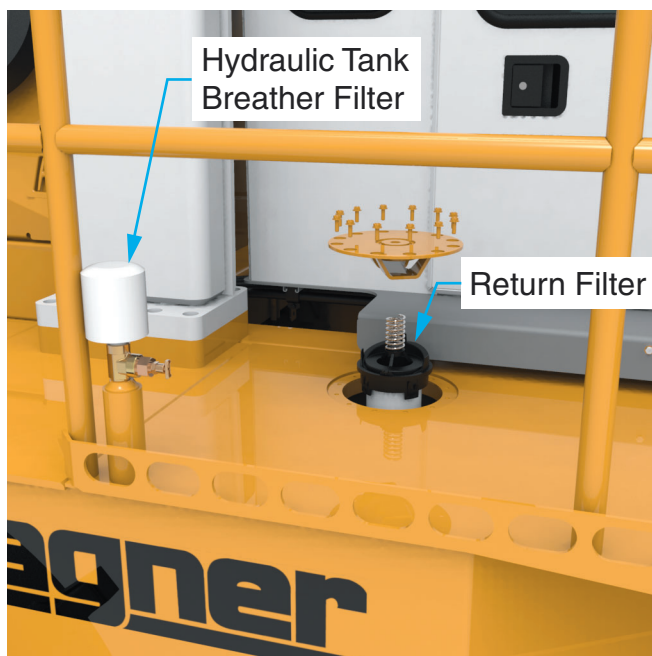

Figure 10 Return Filter and Breather Filter
The breather filter is on the deck on the right side of the machine. See Figure 10.
1. Shut down the machine and vent captive pressure by opening the petcock at the breather. See Figure 10.
The return filter is accessed from the deck on the right side of the machine. See Figure 10.
6. Discard disposable element (2).